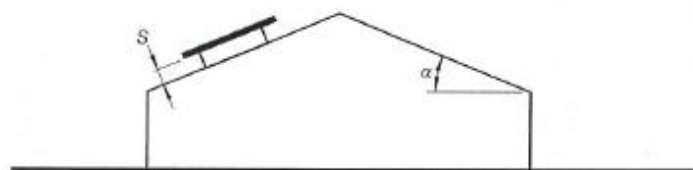
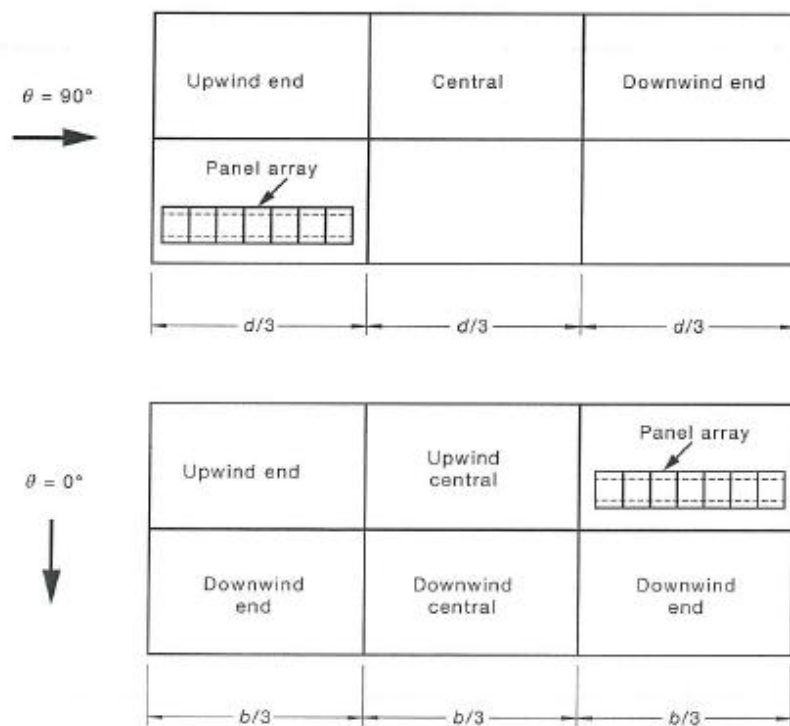

FIGURE D8 PANEL MOUNTED PARALLEL TO ROOF PLANE
FIGURE D9 ROOF ZONES FOR PANEL ARRAY
- Panels with a minimum distance between panel and roof edge of $2s$ where s is the gap between the underside of the panel and the roof surface, as shown in Figure D8 (roof edge includes ridges with pitch $\geq 10^\circ$).
The aerodynamic shape factor (C_{fig}) for calculation net pressures for solar panels satisfying the above conditions, as shown in Figure D8, is given in Table D11. The aerodynamic shape factor (C_{fig}) contains local pressure and area reduction effects for calculating net loads on individual panels installed as part of an array of panels in the areas of the roof identified in Figure D9.